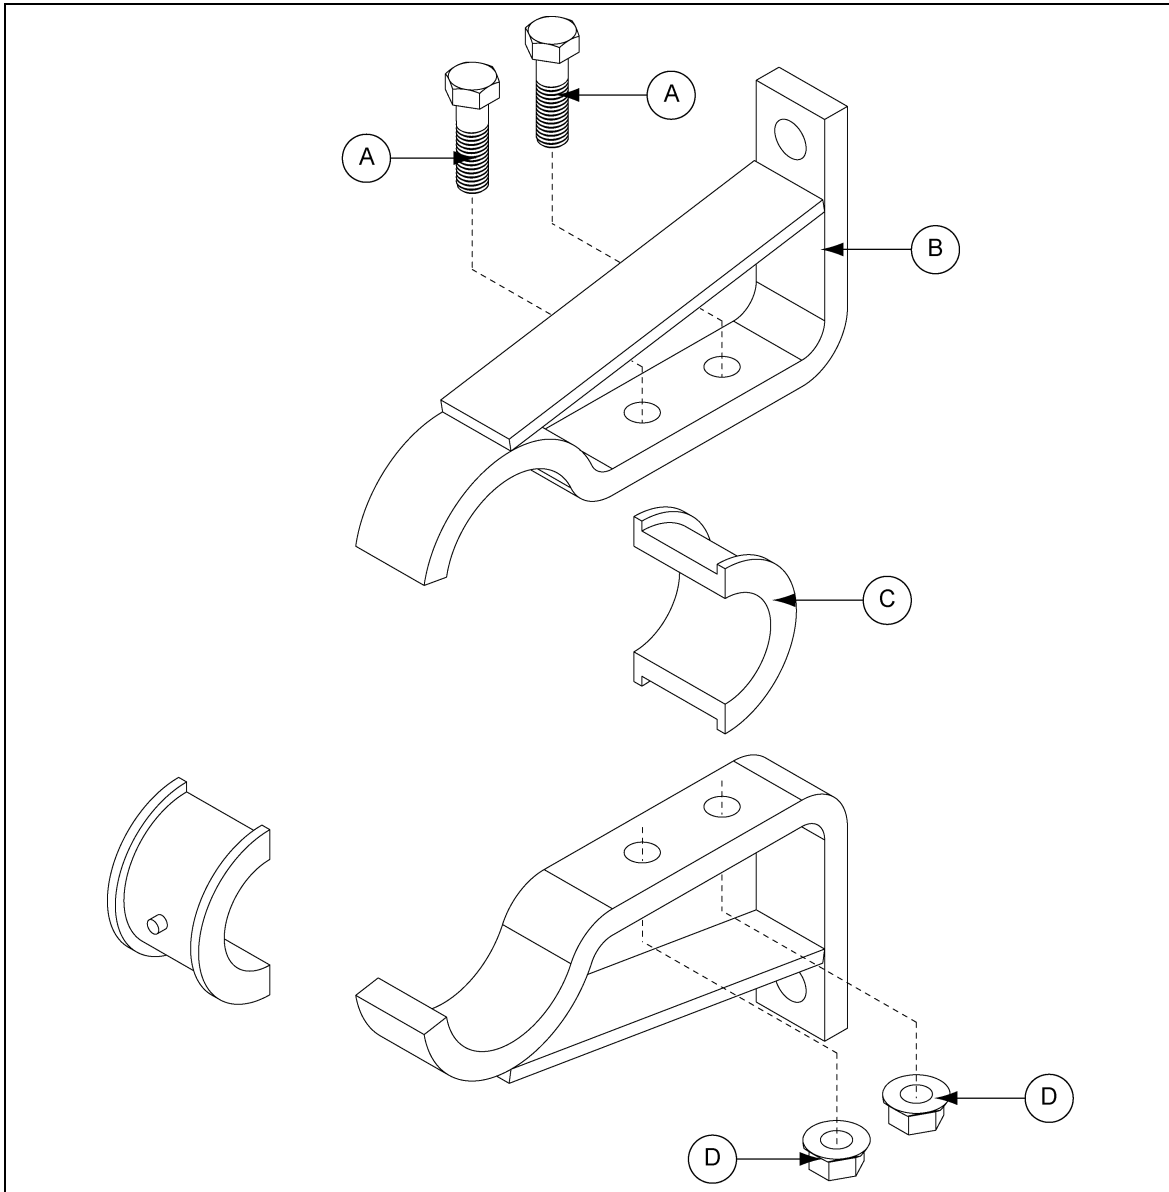

Figure 7Q
1. Bolt the bronze bearings (C) and hanger brackets (B) together using hex bolts (A) and flange lock nuts (D) as shown. (See Figure 7Q.)